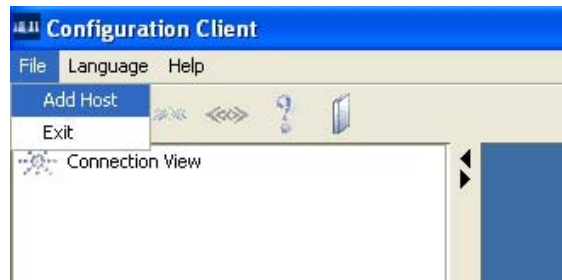

Figure 14-1: Add Host
**Step 1.** Open the **Configuration Client** and select **Add Host**. (See *Figure 14-1*)